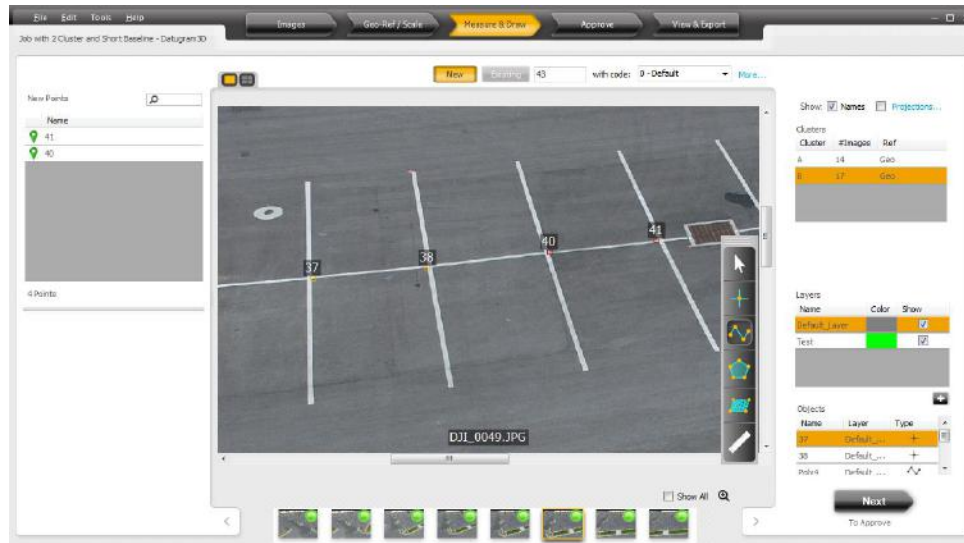

Figure 71 - New Point Projection on other clusters
- The new point drawn on an image in one cluster is displayed as an orange square on other clusters. See Figure 71 below showing two points projected from another cluster and 2 points projected from the same cluster.